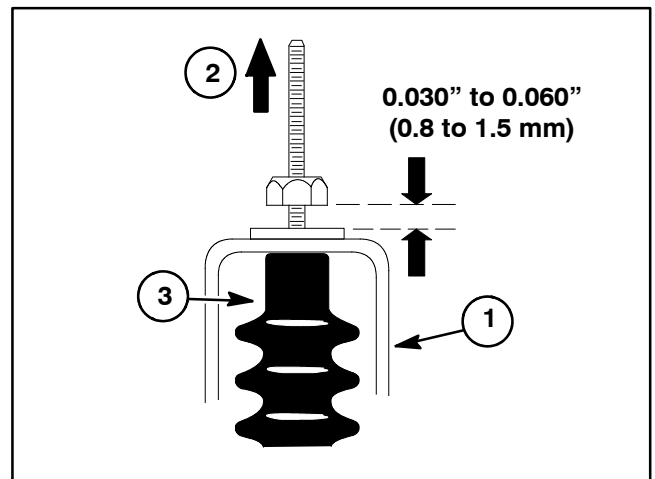

Figure 6
4. While holding the cable below the lever, tighten the lock nut on one of the shift cables to allow **0.030" to 0.060" (0.8 to 1.5 mm)** freeplay in the cable (Fig. 6).
6. Pull up on each shift cable to make sure that freeplay is correct. If necessary, readjust nut (Fig. 6).